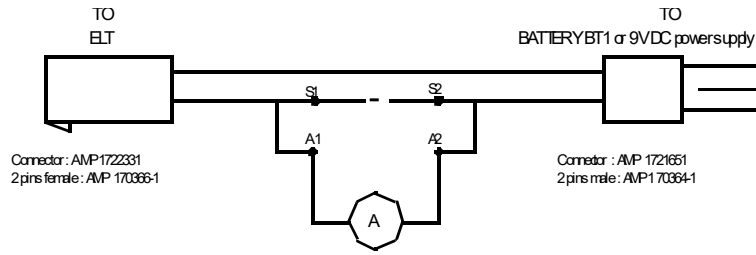

Figure 6: Test model for current measurement
Refer to Figure 3 and Figure 6 for all ELTs except P/N S1819502-02.
- (a) Put back the battery pack (3) into its housing (4)
- (b) Check that the O-ring (5) of lower cover is still in place.
- (c) Install the lower cover (2) in the correct assembly direction (the ear of the lower cover points to the front of the ELT) and install the eight screws (1)
- (d) Tighten the screws (1) of the lower cover
- All ELTs except P/N S1819502-02, tighten the eight screws (1) in the sequence shown figure 6 to a torque of $0.9 + 0, -0.1$ Nm ($7.97 +0, -0.89$ lbf.in)